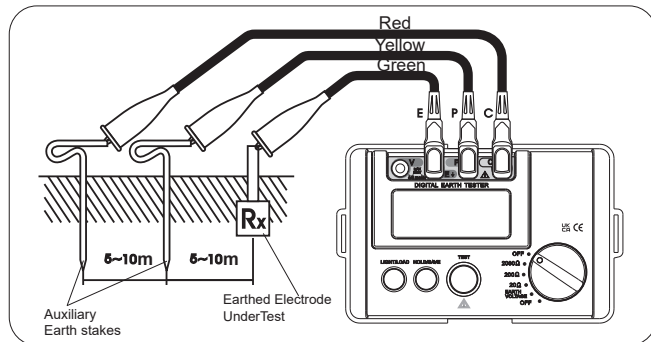

Figure 2
- place 2 ground stakes deep into the soil. Earth electrode(E), probe(P) and auxiliary earth (C) should be in a straight line and 5-10m apart from each other. See Figure 2 for the connection.